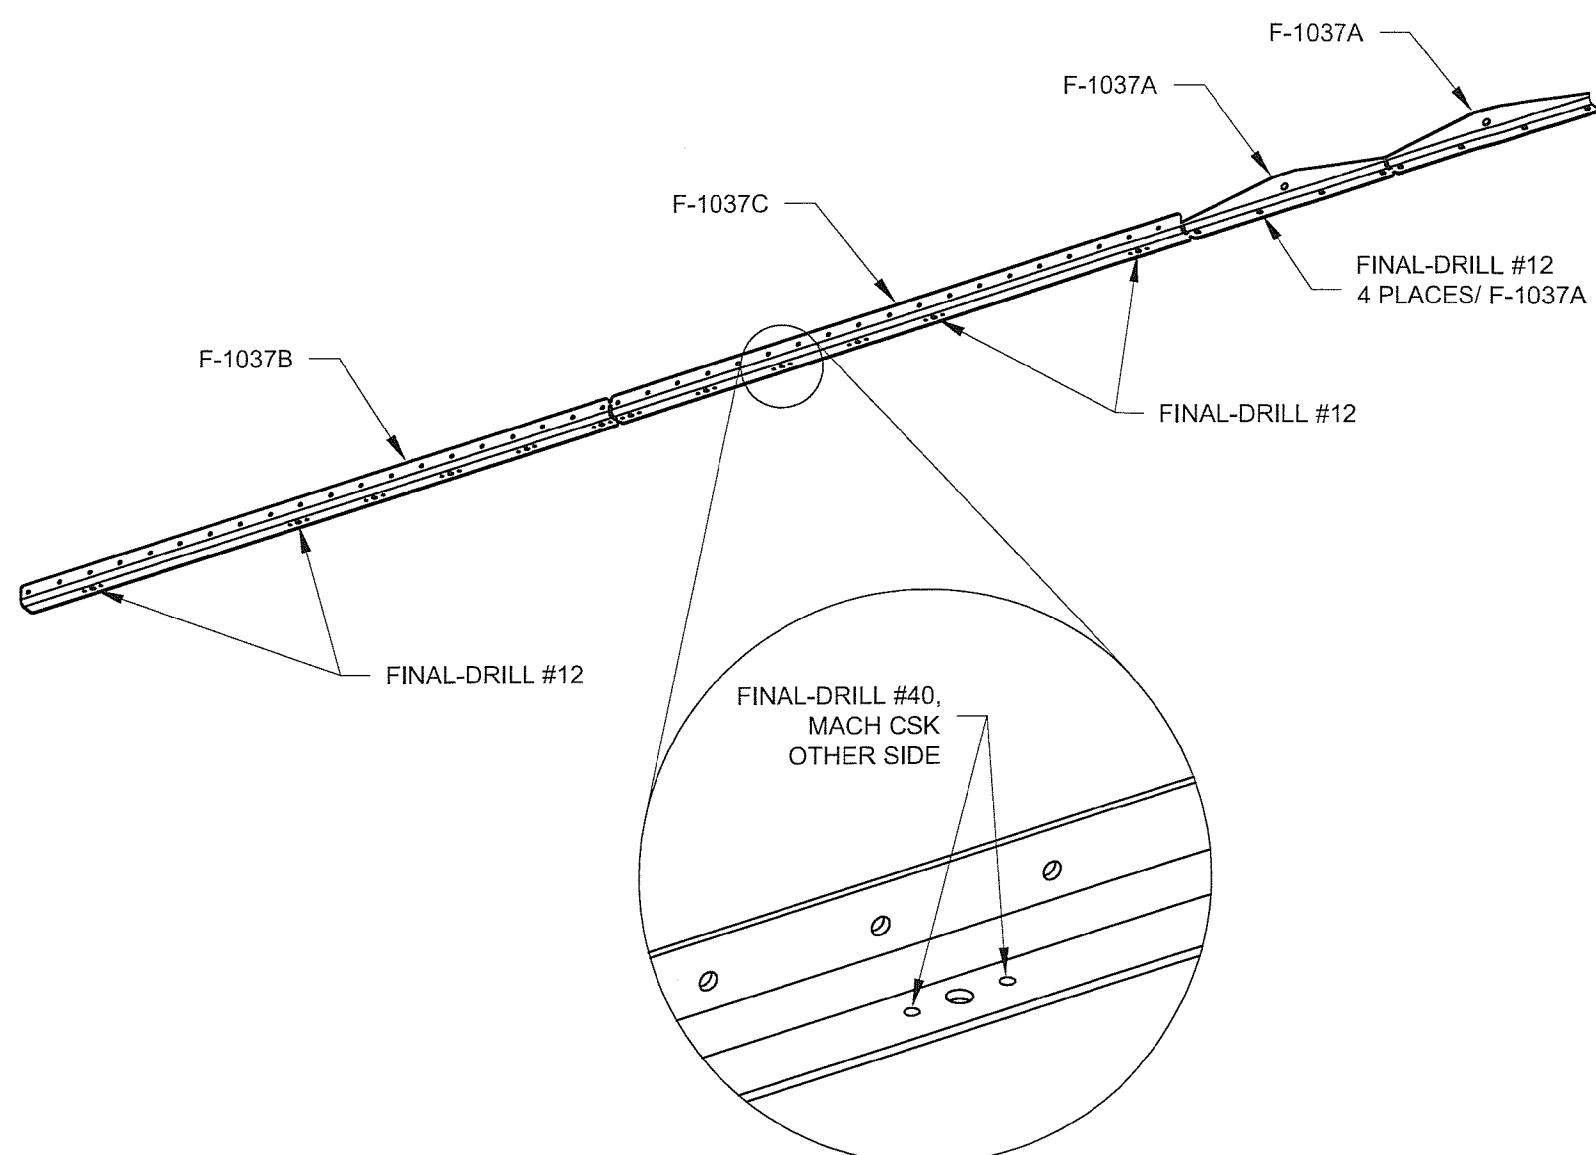

**FIGURE 1: CLECOING THE F-1006
Step 1: Cleco the F-1006 Bulkhead to the F-1073-L, F-1073-R, and F-1078 Skins and to the F-1029-L & -R Bellcrank Ribs as shown in Figure 1. The F-1032 Longerons, the F-1073-L Side Skin, and the F-1047 Stiffeners attached to the side skin are not shown for clarity.